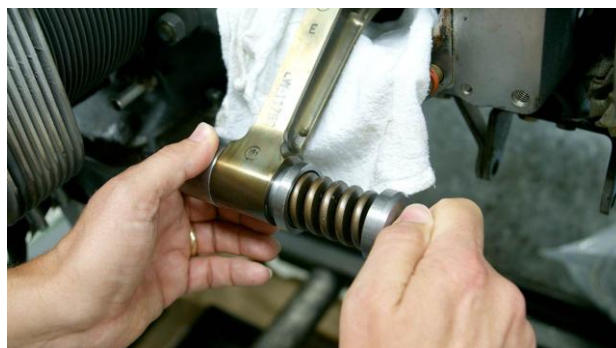

Figure 6
4. Hold the bottom section of the ST-531 and turn the bolt head until finger-tight (Figure 6).